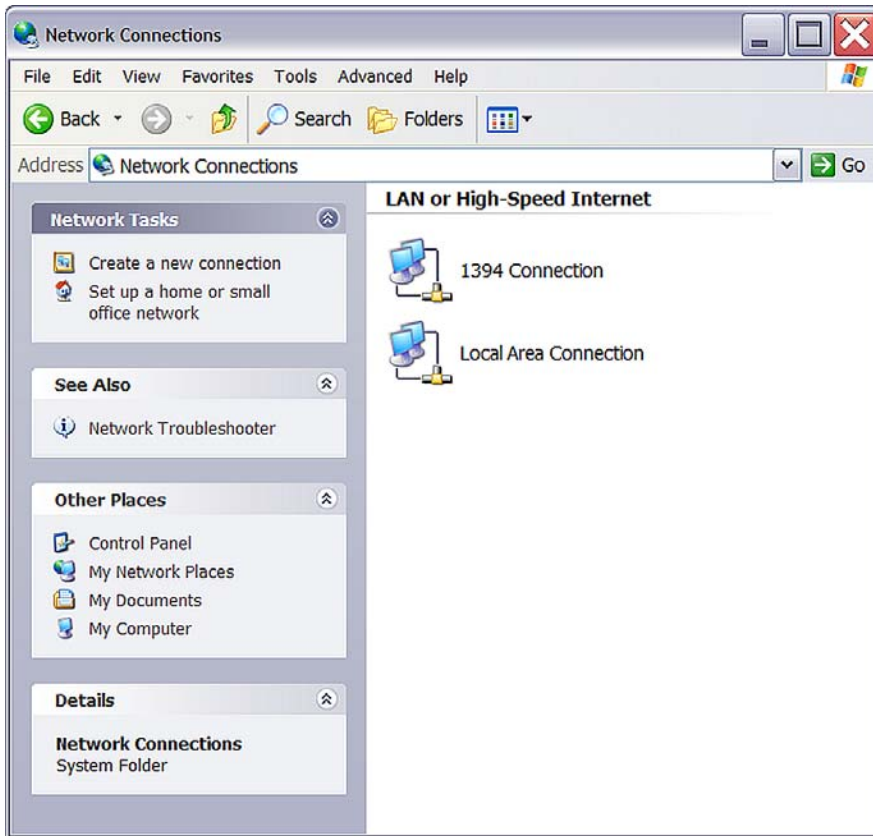

Figure 7. The Network Dialog
1. Open the Windows Control Panel and double-click the Network and Internet Connections icon. The Network Connections dialog box appears (see Figure 7).